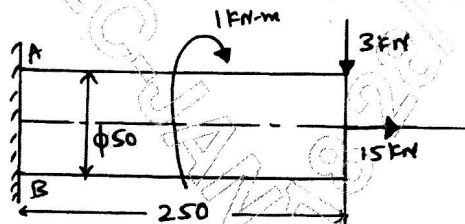

Fig.Q1(b)
b. A circular rod of diameter 50 mm is subjected to loads as shown in Fig.Q1(b). Determine the nature and magnitude of stresses at the critical points.